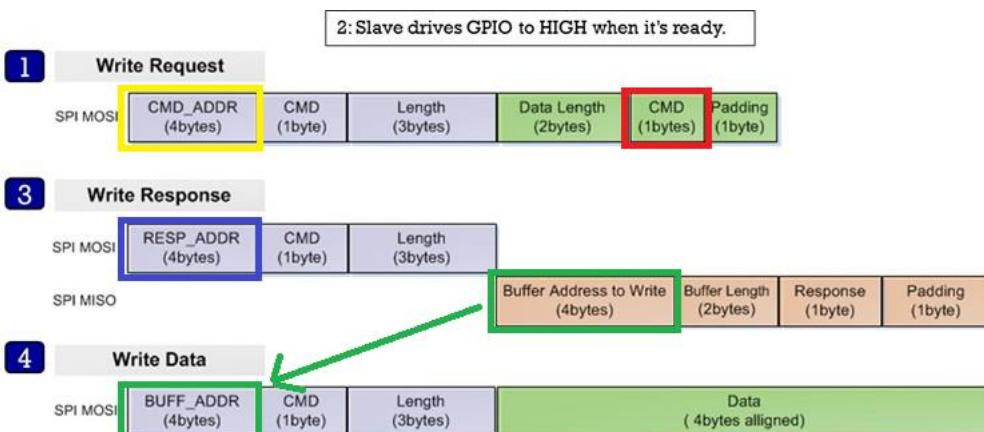

Figure 3: Structure for Write Operation
1. The Host sends a `WRITE_REQ` command (0x80, red rectangle in Figure 3) to the General Command address (0x50080254) (yellow rectangle in Figure 3).
3. The Host reads the Write Response message by Response Command address (0x50080258, blue rectangle in Figure 3) and parse it using `struct _st_host_response` (see Table 5).
- The Host sends data to address (BUFF_ADDR) which is received from the Slave in the Write Response message (green rectangle in Figure 3).